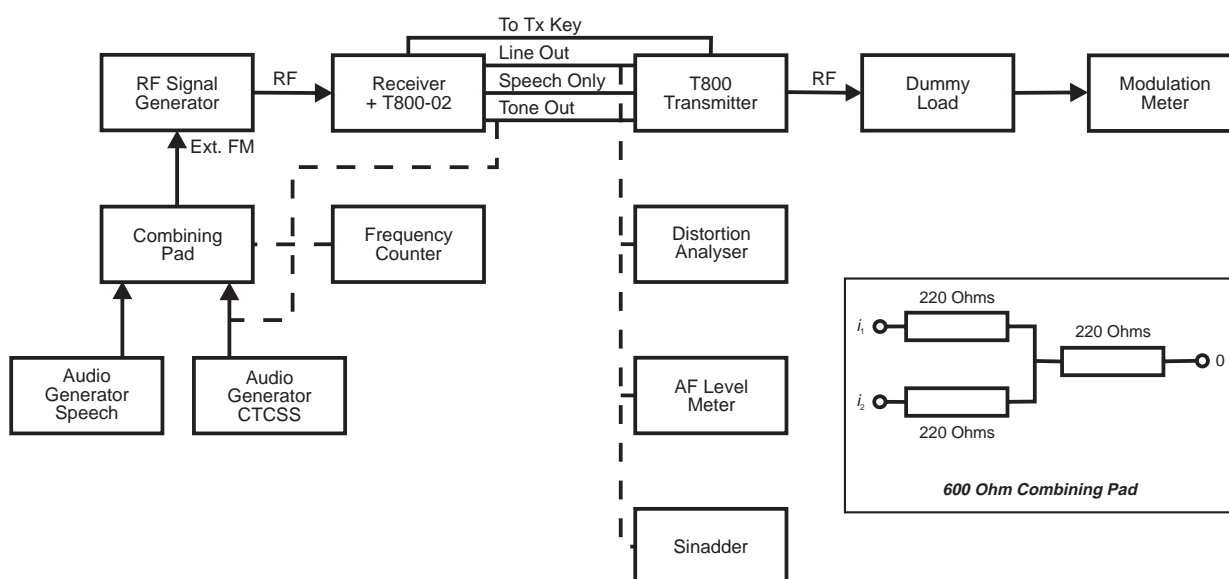

Figure 12 Receiver Test Set-Up
2 audio generators & combining pad (refer to Figure 12)
2. Set up the test equipment as shown in Figure 12.